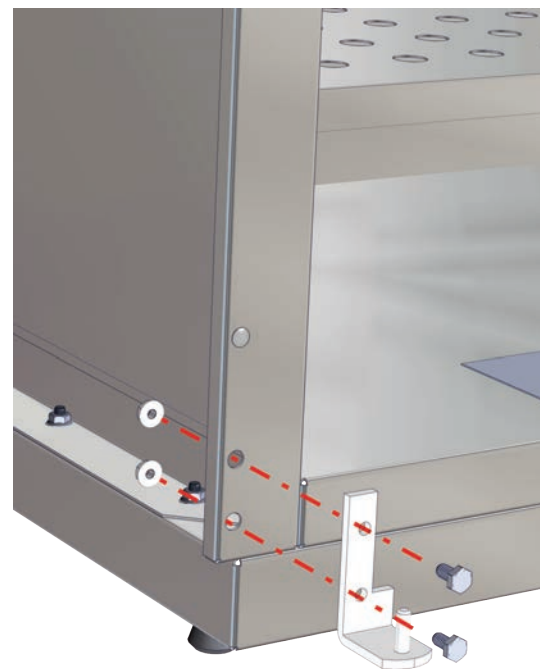

Figure 60: Install Bottom Hinge in New Position
7. Attach the bottom hinge in the new position to the bottom of the unit using the hardware provided (Figure 60).